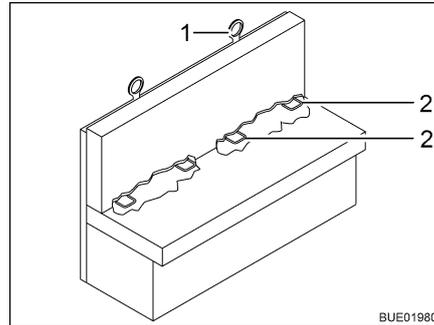

Fig. 21 ISOFIX child safety seat mounting system
If the vehicle is equipped with the ISOFIX child safety seat mounting system, the vehicle seats suitable for it are marked with the ISOFIX symbol. These vehicle seats have retaining brackets (Fig. 21,2) and another anchorage point at the top of the seat backrest (Top Tether) (Fig. 21,1). Use child restraint system suitable for ISOFIX. The child restraint systems possess connectors which are latched to the retaining brackets of the vehicle seat.
- If possible, fasten the child seat at the Top Tether (Fig. 21,1).